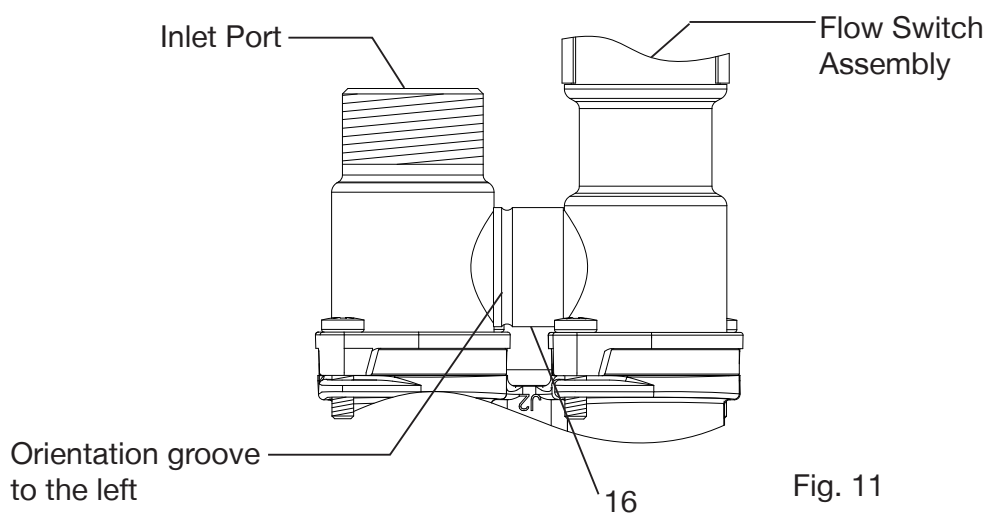

Fig. 11
**Note** – For correct operation the NRV assembly (item 16) must be fitted with the orientation groove to the left (inlet port side) as shown in Fig. 11.